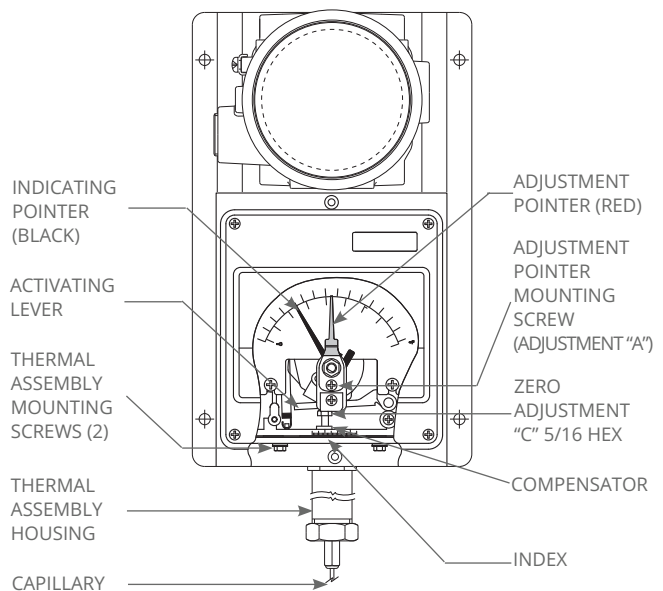

Figure 5: Indicating Enclosure Internals
- 4 Loosen adjustment pointer mounting screw "A" and move the adjustment pointer (red) until it aligns with the indicating pointer (black) (see Figure 5). When the switch clicks re-tighten the screw.
- 4 Move the adjustment pointer (red) up the scale past the indicating pointer (black), actuating both switches, by moving the actuating lever upward with a finger, or a tool, simulating thermal assembly movement (see Figure 5). Note switch operation on the test lights.
- 6 To align the switch #1 adjustment pointer (red) with the indicating pointer (black), loosen the adjustment pointer mounting screw "A" and align the adjustment pointer (red) with the indicating pointer (black), then re-tighten screw "A" (see Figure 5).
- 3 Correct any difference between the indicating pointer (black) and the test thermometer by holding the compensator with a 5/16" wrench while turning the zero adjustment "C" on the thermal assembly with a second 5/16" wrench (see Figure 5) until the indicating pointer (black) reads the same value as the test thermometer. Turning the zero adjustment "C" clockwise lowers indicated reading.